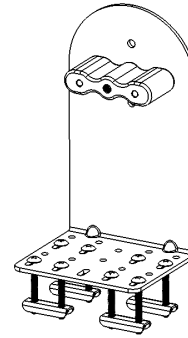

Figure 32
Step 2 – Attach Upright Base to either side of the L-Bracket using the hardware included (see **Figures 32 and 33**).